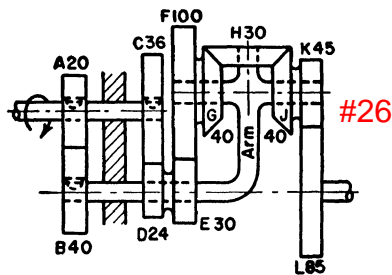

Fig. P 11.20
11.20. In Fig. P 11.20, gears *A* and *C* turn once. Determine the number and directions of the turns of gear *L*.